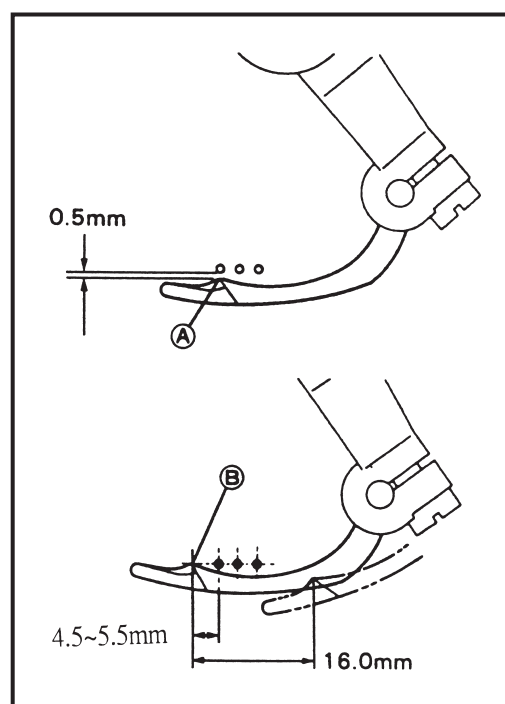

Fig.33
When Spreader (A) move from right to left, provide a clearance of 0.5~0.8mm, between Left Needle and the tip (B) of thread hooking point, and when it comes to the extreme left, the clearance between the center of Left Needle and tip (B) of tread hooking point must be 4.5~5.5mm. (Fig.33)